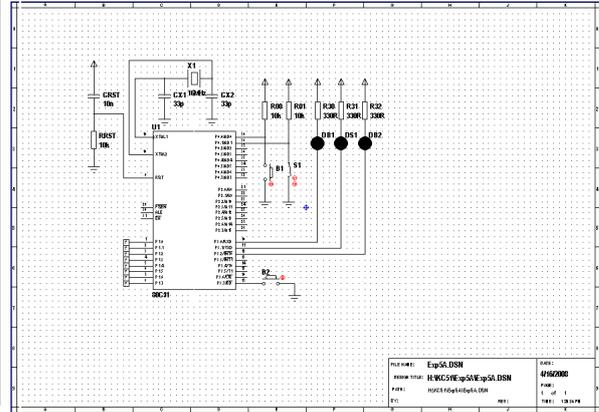

Fig. 3. Design window of Exp5A.DSN
- 2- Use File→Load design to open the file-browser, navigate to **Exp6A** folder, and load **Exp6A.DSN** file to ISIS. You will get the design window seen in Fig.3.